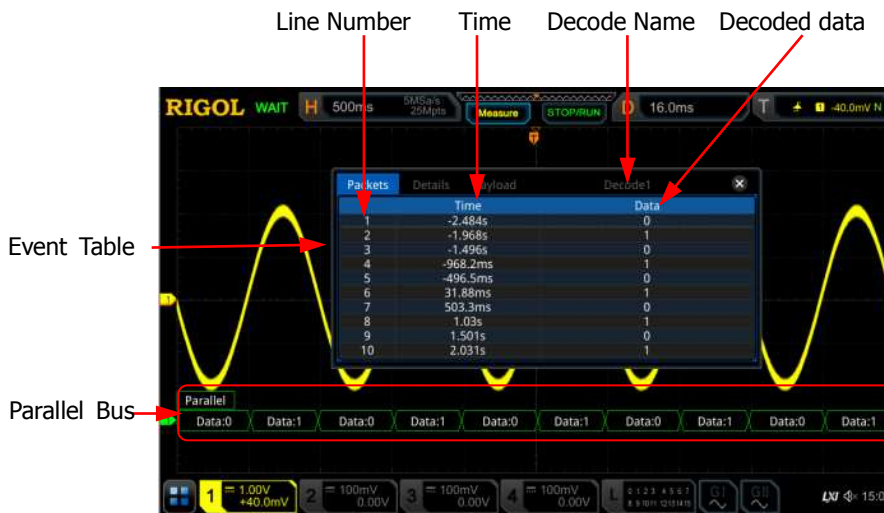

Figure 11-2 Parallel Decoding Event Table
- Open or close the event table: Press **Event Table** continuously to enable or disable the event table. When you enable the event table, the following figure is displayed, as shown in Figure 11-2. You can also